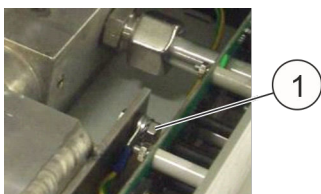

Fig. 90: Earthing screw
10. ▶ Remove the earthing screw (Fig. 90/1) from the tank.